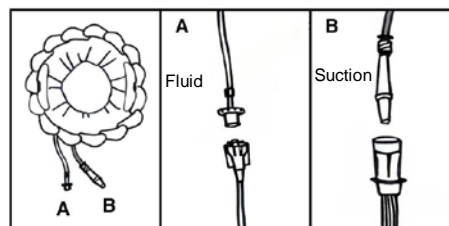

Figure 4. Connect Fluid Tubing Set and Suction Tubing (not provided)
- Connect the fluid connector to the fluid tubing set. (Figure 4, Panel A)
- Connect the suction connector to the hospital's standard sterile surgical suction tube. (Figure 4, Panel B)